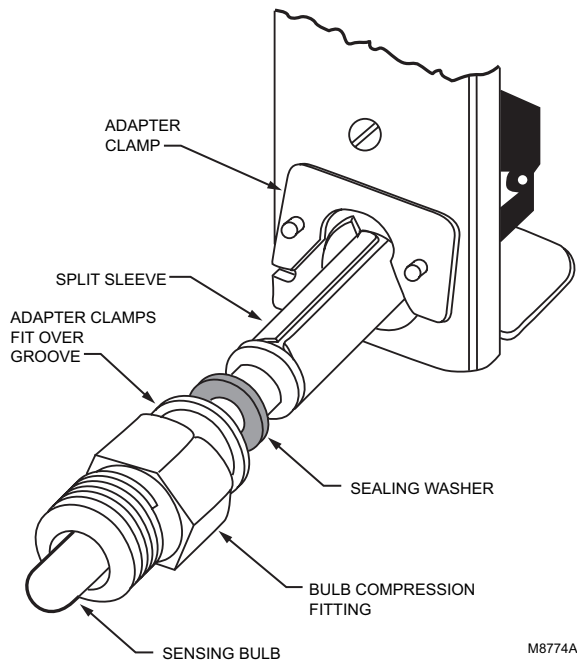

Fig. 7. Direct immersion model with fitting partially removed.
1. Be sure the sealing washer is in place as shown in Fig. 7. Make sure that the spud of the bulb compression fitting is screwed in tightly enough to prevent leaking.